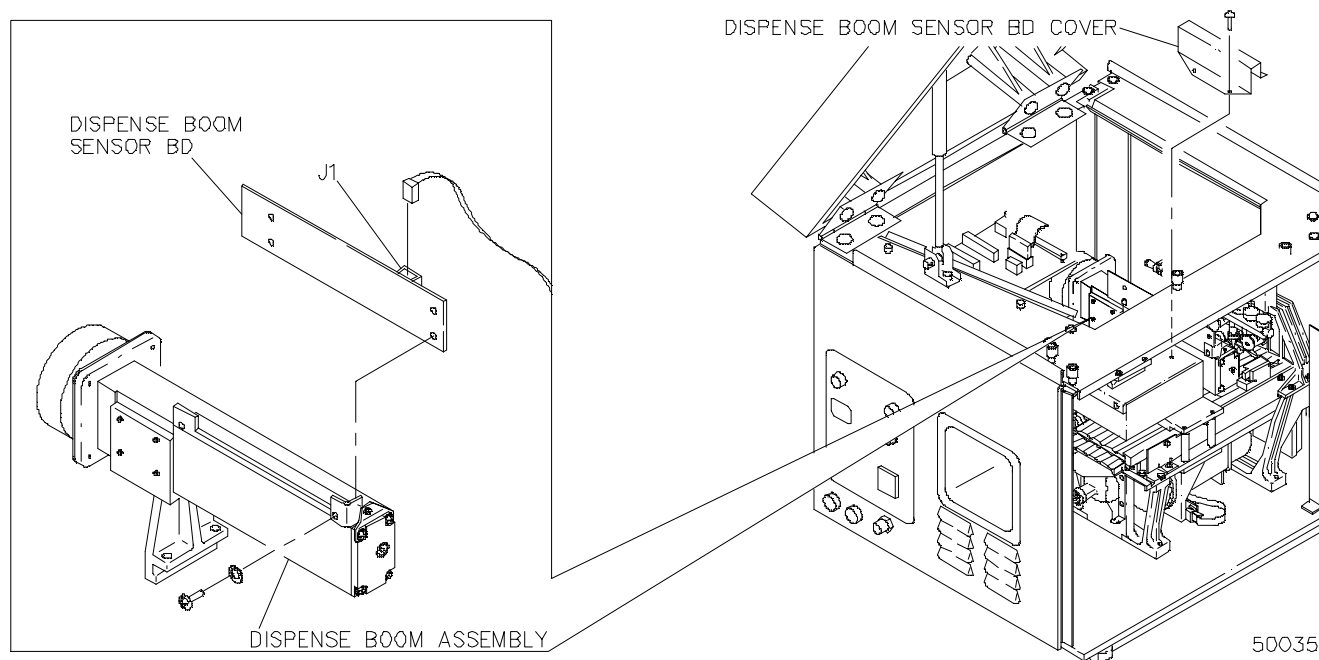

Figure 4-35. Dispense Boom Sensor Bd
4. Remove Dispense Boom Sensor Bd Cover (**Figure 4-35**).
6. Remove board mounting hardware from two places (**Figure 4-35**).